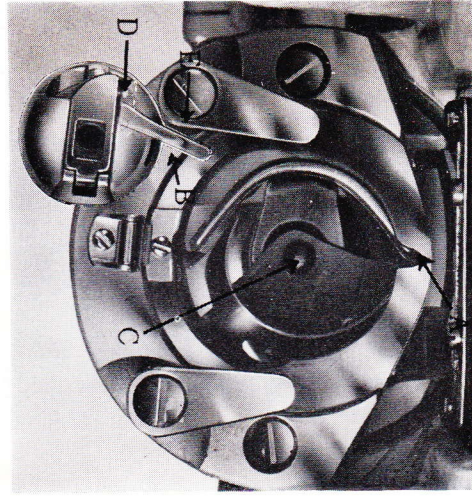

Fig. 7
Raise needle bar to highest position, and lift hinged cover plate. Hold the bobbin case latch, (D), Fig. 7, between the thumb and forefinger of the left hand, with at least three inches of thread running from the top of the bobbin case to the right. Insert and center the bobbin case on the stud of the shuttle body, (C). Be sure the bobbin case finger, (A), is opposite the shuttle race notch, (A). Press the bobbin case (B) into the shuttle as far as possible until latch catches on the center post of the shuttle. THEN release the bobbin case latch, (D). Press bobbin case again after latch has been released to make sure the bobbin case is locked securely in place. Close the cover plate.